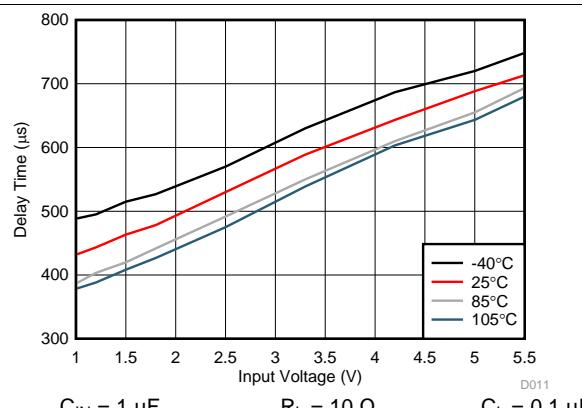

**Figure 7.  $R_{PD}$  vs  $V_{IN}$**
(1) Output pull down resistance varies with input voltage. Please see Figure 7 for more information.